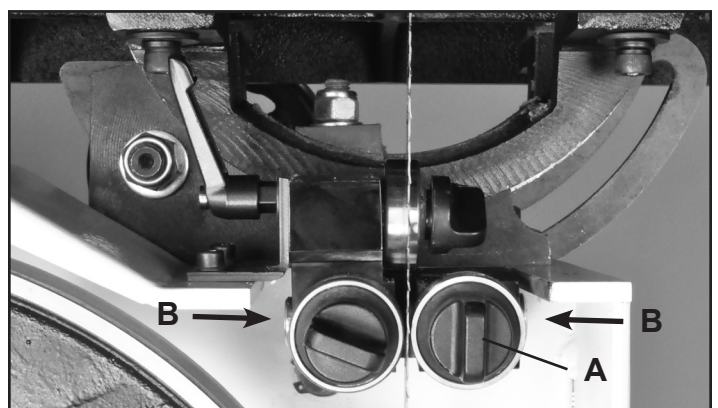

FIGURE 25 NOTE: Blade Guard removed for photo purposes
1. Position the right and left roller guides close to the blade. Loosen the front Lock Handles (#39E, Fig. 25, A). Move the guides towards the blade by pushing the ends of the Guide Shafts (#35E, 44E, B), or use the front lock handles to pull the guides towards the blade. Lock the guides in place. Fig. 25.